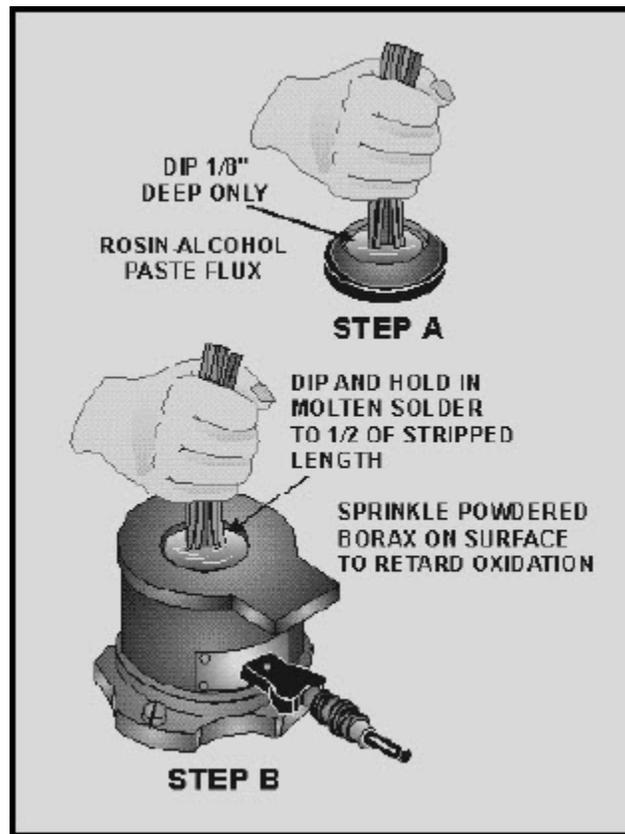

Figure 2-25 Dip-tinning In a solder pot
Copper wires are usually tinned by dipping them into flux (view A of figure 2-25) and then into a solder bath (pot) (view B of the figure). In the field, copper wires can be tinned with a soldering iron and rosin-core solder. Tin the conductor for about half its exposed length. Tinning or solder on the wire above the barrel causes the wire to be stiff at the point where flexing takes place. This will result in the wire breaking.
3. Grasp the wire firmly and dip it into the prepared flux to a depth of about 1/8 inch (see view A of figure 2-25).
5. Immediately dip the wire into molten solder. Dip only half of the stripped conductor length into the solder (see view B of figure 2-25).